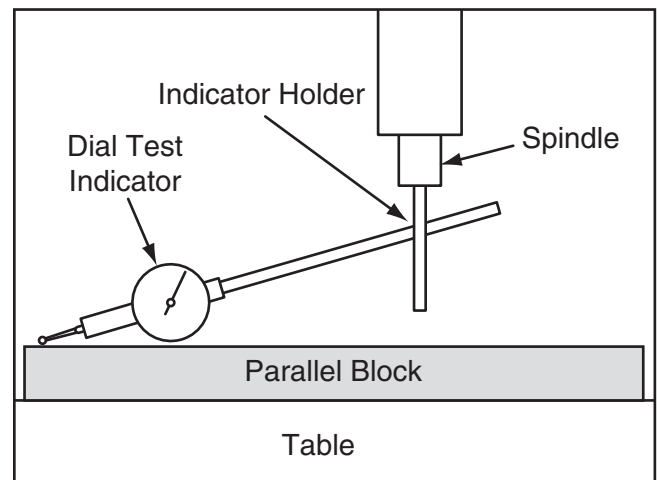

Figure 77. Dial test indicator mounted.
4. Install indicator holder in spindle or on quill, then mount indicator so that point is as parallel to the block as possible (see illustration in **Figure 77**).
- Rotate spindle by hand so that indicator point rests on one end of parallel block, as illustrated in **Figures 77–78**, then zero dial.